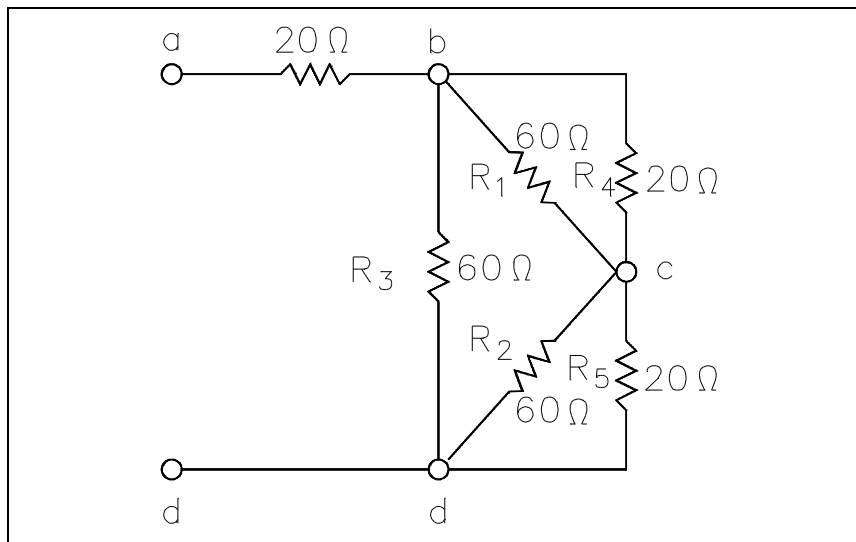

Figure 51 Y - Δ Redrawn Circuit
Step 2: Now, we can redraw the Y circuit as a Δ circuit and reconnect it to the original circuit (Figure 51):
Step 3: Reduce and simplify the circuit. Note that the 20Ω and 60Ω branches are in parallel in Figure 51. Refer to Figures 51 and 52 for redrawing the circuit in each step below.